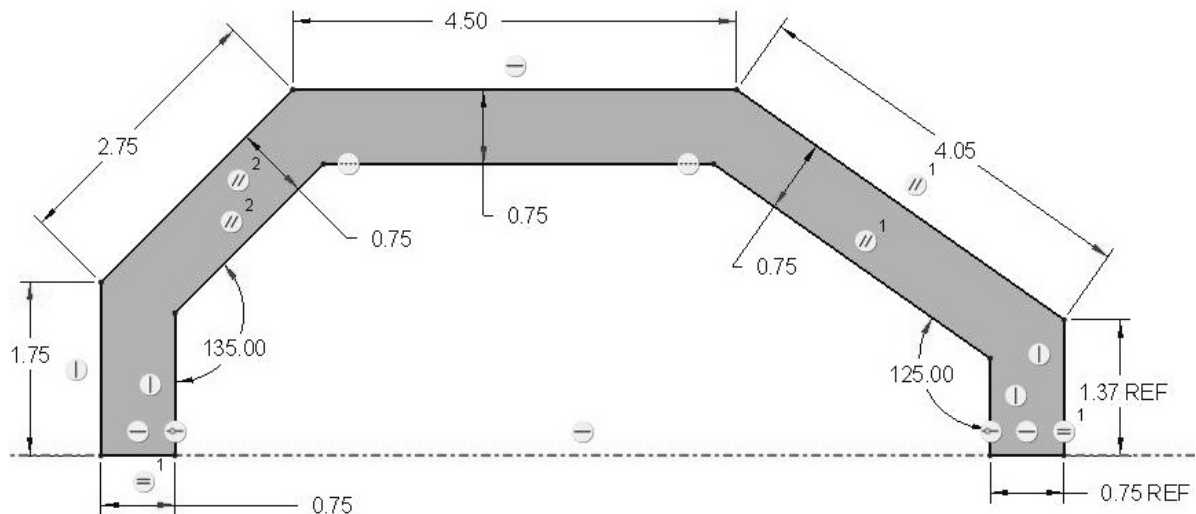

Figure 3-77 Problem 8—Support Frame
3.8 Draw the "support_frame" (Figure 3-77). **Design Intent**—The thickness of the frame is $\frac{3}{4}$ of an inch. Draw the outer lines of the support_frame first and dimension it. The two legs are vertical and the top is horizontal. What is the volume of the shaded area if the support frame was 10 inches deep? Can you determine the volume underneath the support frame (white space under) if it is 10 inches deep? (>File>Options>Sketcher, change to 2-decimal places before sketching.)